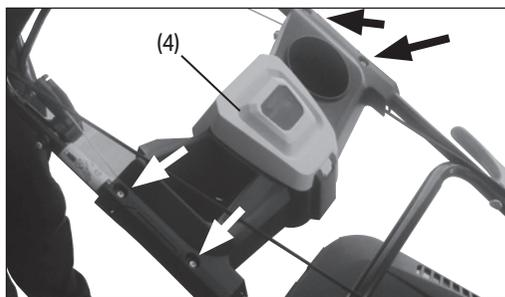

Fig.3
6.2 Fitting the Cup/Tool Holder Panel (Fig.3)